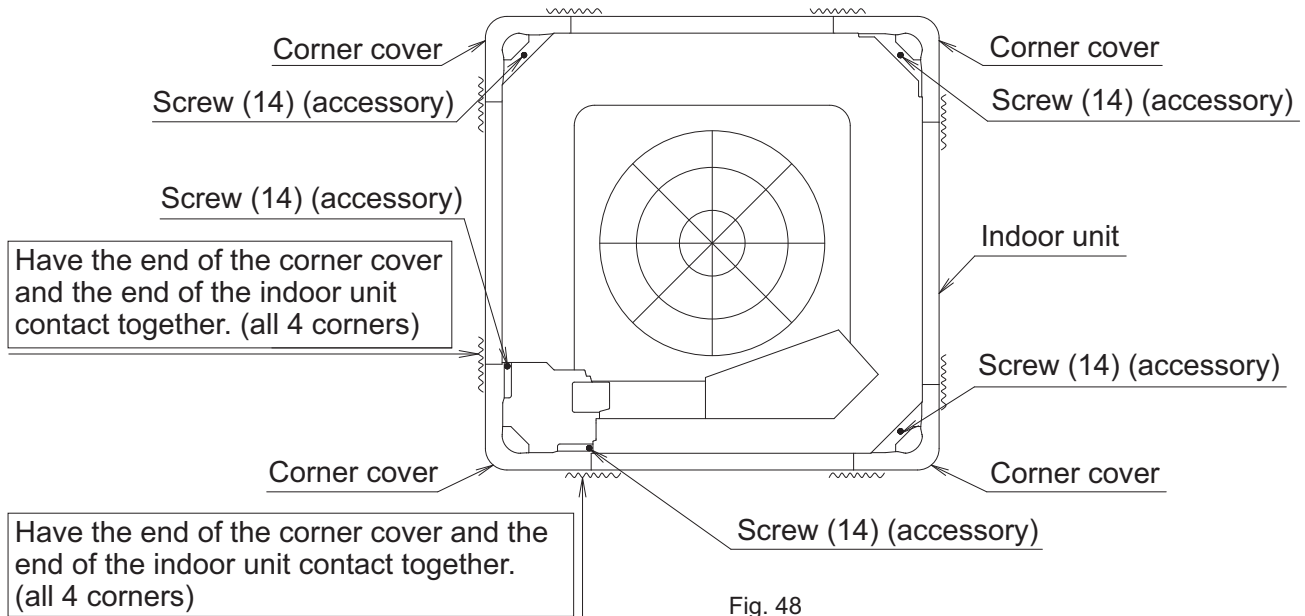

Fig. 48
Then, fix the corner cover with the attached screws (14) while pressing the corner cover so that the end of the corner cover and the end of the indoor unit contact together. **(Refer to Fig. 48)**